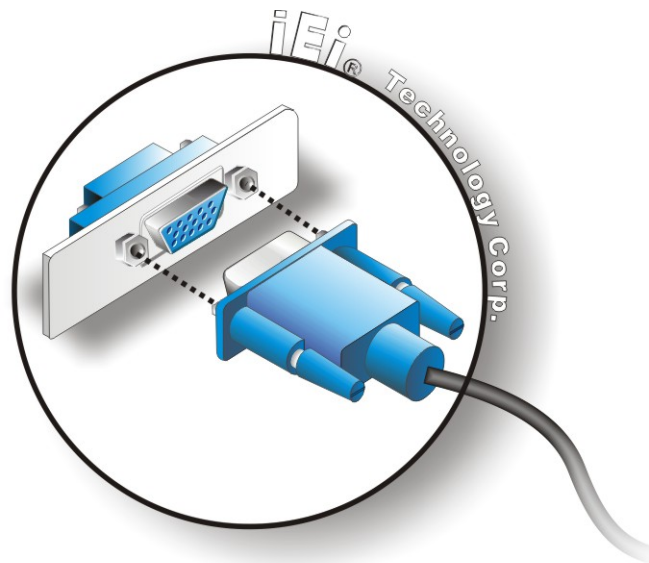

Figure 5-22: VGA Connector
- Step 3: Insert the VGA connector.** Once the connectors are properly aligned with the insert the male connector from the VGA screen into the female connector on the WAFER-945GSE. See **Figure 5-22**.